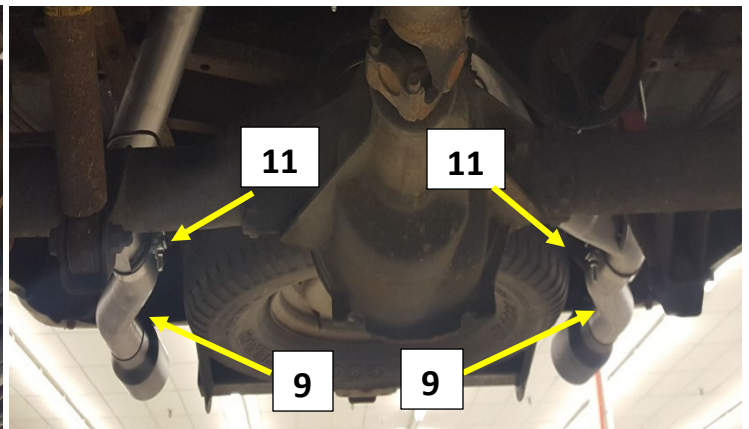

Figure.10
2. Install the supplied tip and adjust to personal preference before tightening the clamps on the exit pipe and tip. **Fig.10**